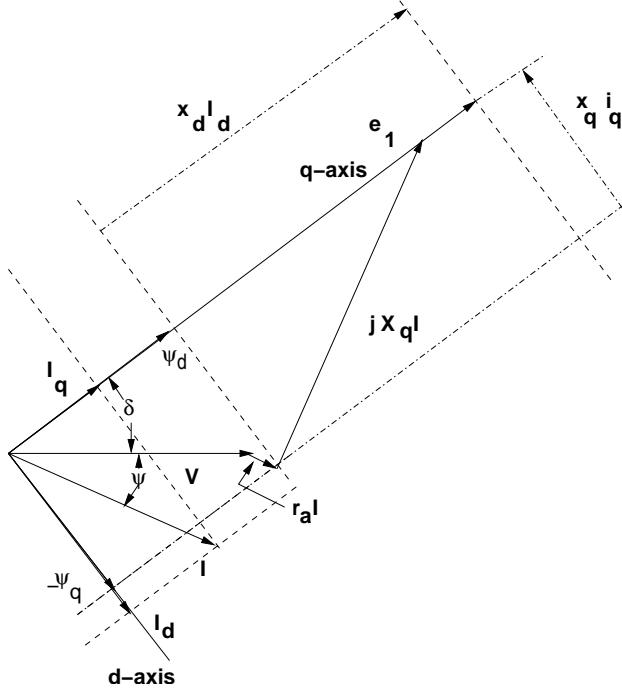

Figure 5: Steady State Operation
7. Steady state operation is found with reference to Figure 5. This should look familiar, with the addition of a little piece that represents voltage produced by armature resistance. Direct and quadrature axis fluxes are related to the voltage 'inside' this resistance:  $V_i = V + r_a i_a$ . Then the normal rules apply. There is a voltage on the q-axis:  $e_1 = V_i + jx_q i_a$  and that sets the torque angle:  $\delta = \text{angle}(e_1)$ . Then, as normal,  $i_d = i_a \sin(\delta + \psi)$  and  $i_q = i_a \cos(\delta + \psi)$ . Once we have  $\delta$ , we can also find the fluxes. Noting the angle of the internal voltage:  $\alpha = \text{angle}(V_i)$ , and with reference to the figure,  $\psi_d = |V_i| \cos(\delta + \alpha)$  and  $-\psi_q = |V_i| \sin(\delta + \alpha)$ .